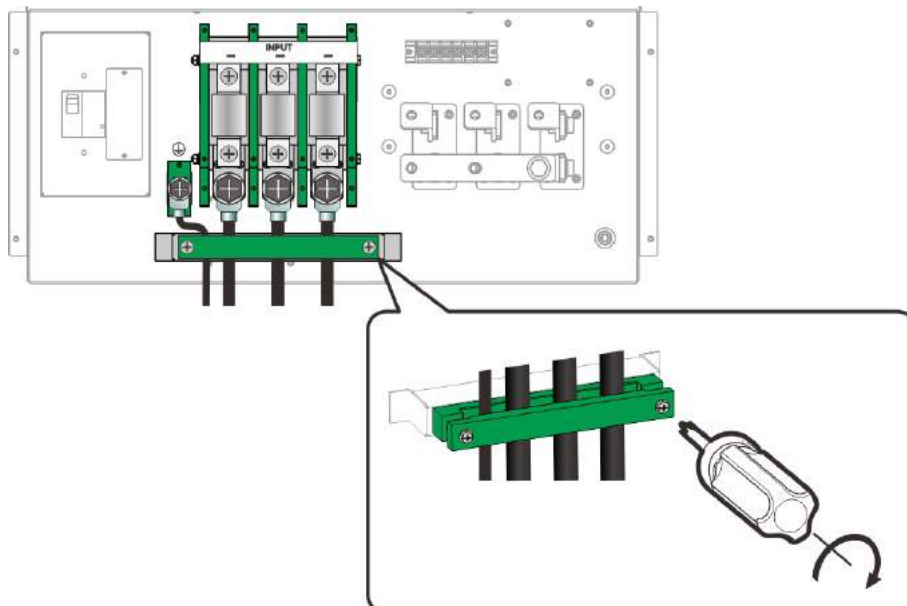

Figure 2-1 3-Phase Power Input Connection and Wiring Fixed Diagram
Perform the steps below for connection as Figure 2-1 shows:
2. Connect the power cable to the power terminal of Regenerative Grid Simulator (see Figure 2-1.)